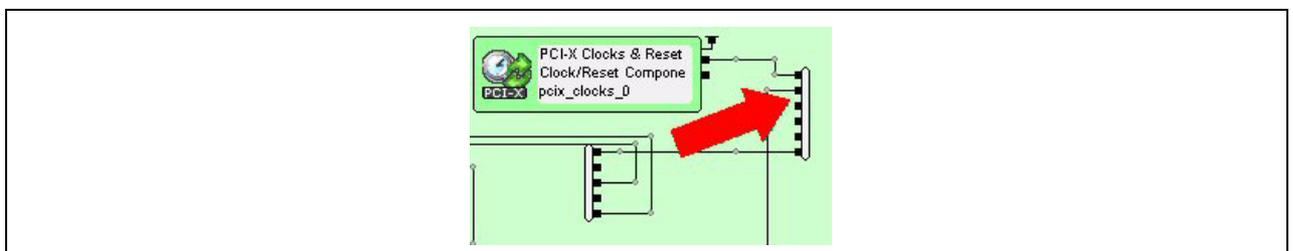

Figure 35: Creating a Bus Connection
3. The bus is now placed down in the DIMEtalk System Design tool as shown by the red arrow in **Figure 35**.